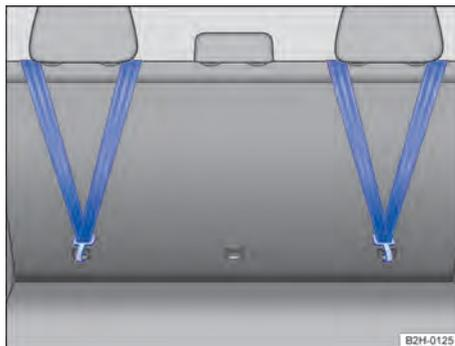

Fig. 55 On the back of the rear seat backrest: Fitted top tether.
5. Hook the top tether into the corresponding retaining ring → Fig. 55.